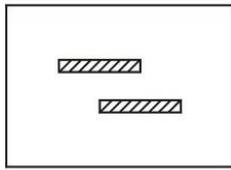
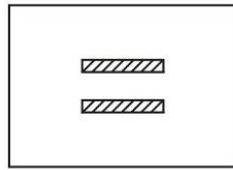
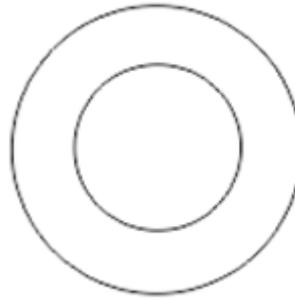

Fig.52
Fig.53
Fig.54
(1) Horizontal Phoria
If the patient has no presbyopia, set the results of phoria tested at far point in aperture. If the patient has presbyopia, put the results on the near point test. Set the near point card at 40cm, and turn auxiliary lens knob ②① to set the right eye at $6\Delta U$ so that letter rows are fully separated. If the patient has horizontal phoria, it will be shown as Fig.52. Turn rotary prism ①② to the other eye, with 0 scale upward.(see Fig.54) Turn prism rotation knob ①① so that there is no difference between the left and right eyes and, at this time, scale of the rotary prism indicates prism power(see fig.53).